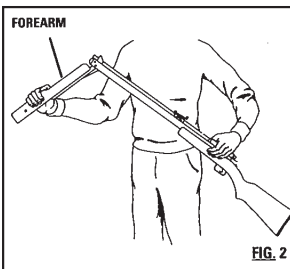

FIG. 2
- Open the forearm all the way until it stops (Fig. 2). Be sure to hold the forearm firmly as you open it. It could spring back into the closed position, possibly causing injury. Place your hands in the same positions shown in Fig. 2 in order to avoid being pinched, should you lose hold of the forearm. Do not twist the forearm while pumping. Use straight strokes to prevent breakage.